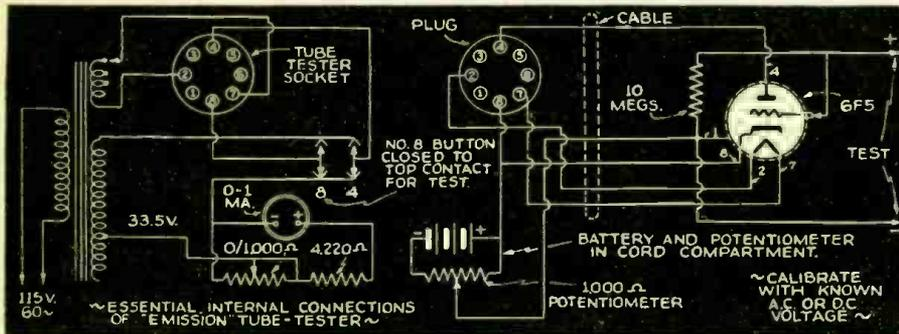

Fig. 1. Any emission-type tube tester may be used as a vacuum-tube voltmeter.
Fig. 1. RCA-Victor Models 121, 122; intermittent reception traced to open 0.05-mf. bypass condensers in the grid-return circuits of the Antenna, R.F. and 1st I.F. circuits.
**TUBE TESTER AS V.-T. VOLTMETER.** Almost any emission-type tube tester may be used as a fairly accurate vacuum-tube voltmeter. With the use of a 1,000-ohm potentiometer and a 4½ V. "C" battery a wide variety of different tube types may be used. An adapter is made for the tube to be used with the grid circuit left open. If grid connects to top cap, no adapter is needed. I used a type 6F5 since it has a top cap which can be used as a probe and the socket can be connected to a plug and cable for high-frequency measurements. My instrument is a Supreme 89D and the circuit is shown in the diagram of Fig. 1. Calibration curves can be made to suit the instrument used.